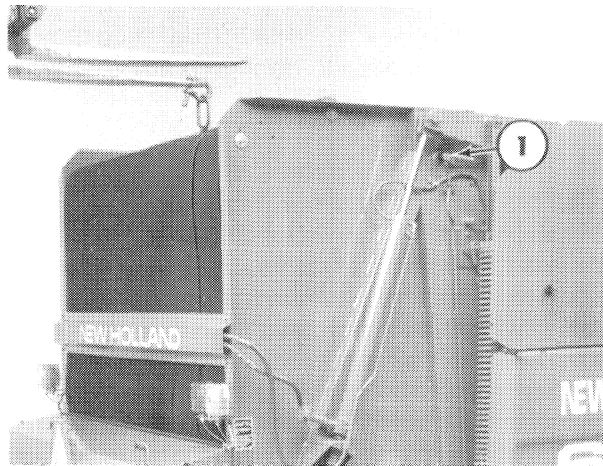

Figure 7-34
3. Use a strap or chain, as shown in Figure 7-34, to lift the take-up and release retaining pin, 1, Figure 7-5. Lower the arm and remove the retainer.